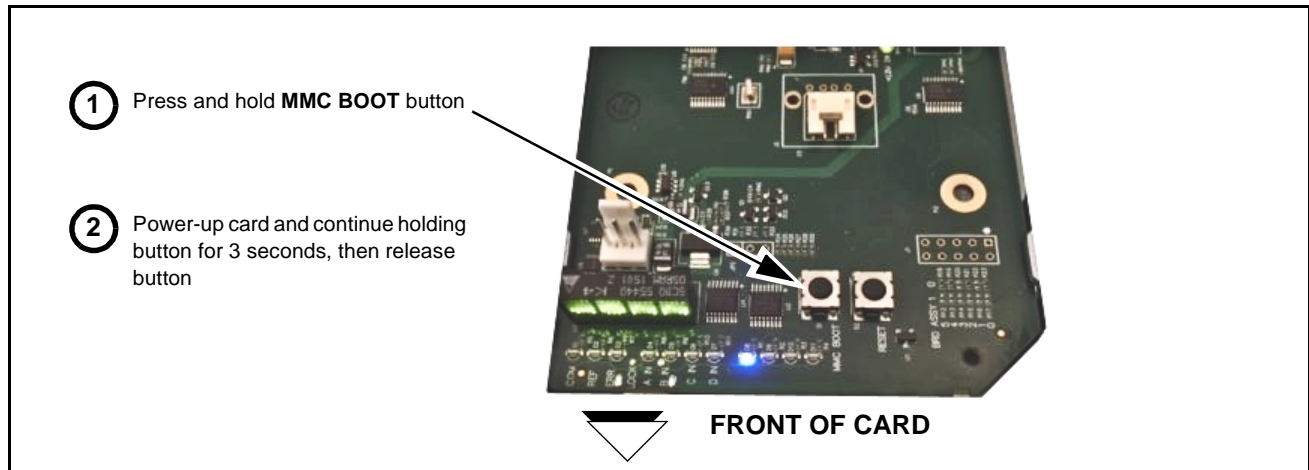

Figure 3-14 MMC Boot Button
2. (See Figure 3-14.) With card powered-down, locate the **MMC BOOT** button on the card. Proceed as shown in picture.